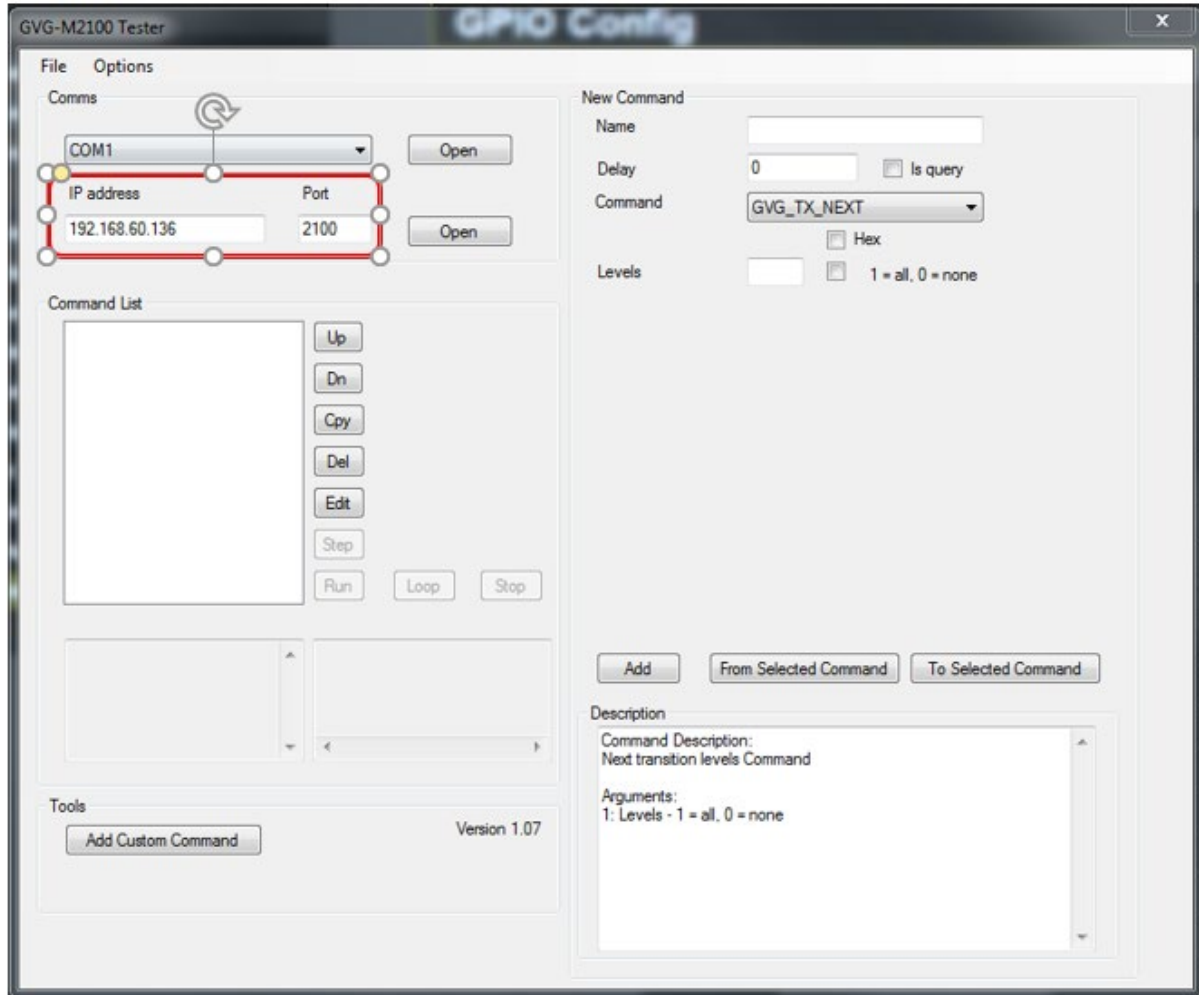

Figure 5-2: M2100 – IP Configuration
2) Set the IP address of the 570DSK-12G-F, include the port (Default: 2100) and click 'Open' button to connect it to the device, as Figure 5-2.